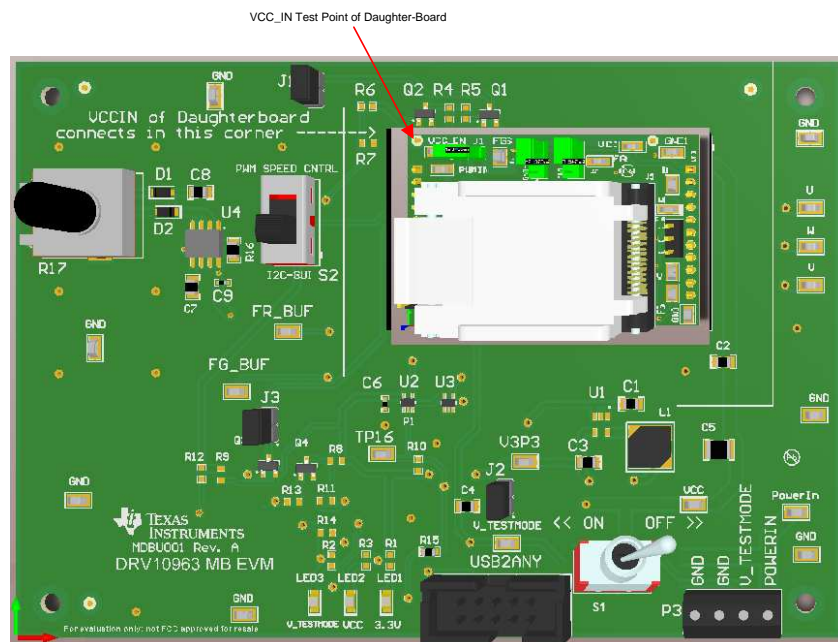

Figure 2. DRV10963 Daughterboard Mounting on Motherboard
- The daughterboard is rigidly inserted on the motherboard without any loose connection. Check the orientation of the daughterboard with VCC_IN test-point connected to the right corner. Refer to Figure 2 for details and read instructions written on the motherboard for proper orientation.